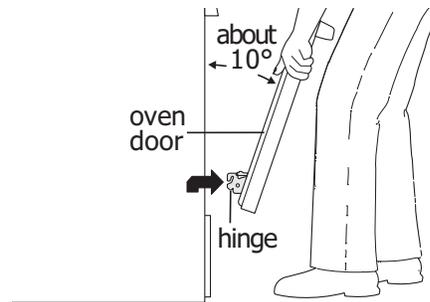
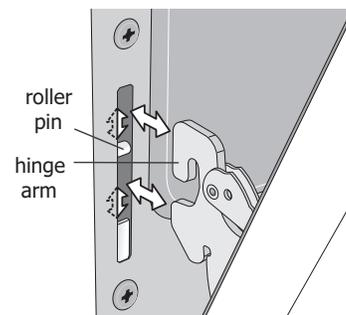

Figure 45: Holding door for removal
Figure 46: Replacement and location of hinge arm and roller pin
3. Firmly grasp both sides of oven door along the door sides. Do not use the oven door handle (Figure 45).
5. Lift the oven door hinge arms over the roller pins located on each side of the oven frame (Figure 45).
1. Firmly grasp both sides of oven door along the door sides. Do not use the oven door handle (Figure 45).
2. Holding the oven door at the same angle as the removal position, seat the hook of the hinge arm over the roller pins located on each side of the oven door frame (Figure 45 and Figure 46). The hook of the hinge arms must be fully seated onto the roller pins.